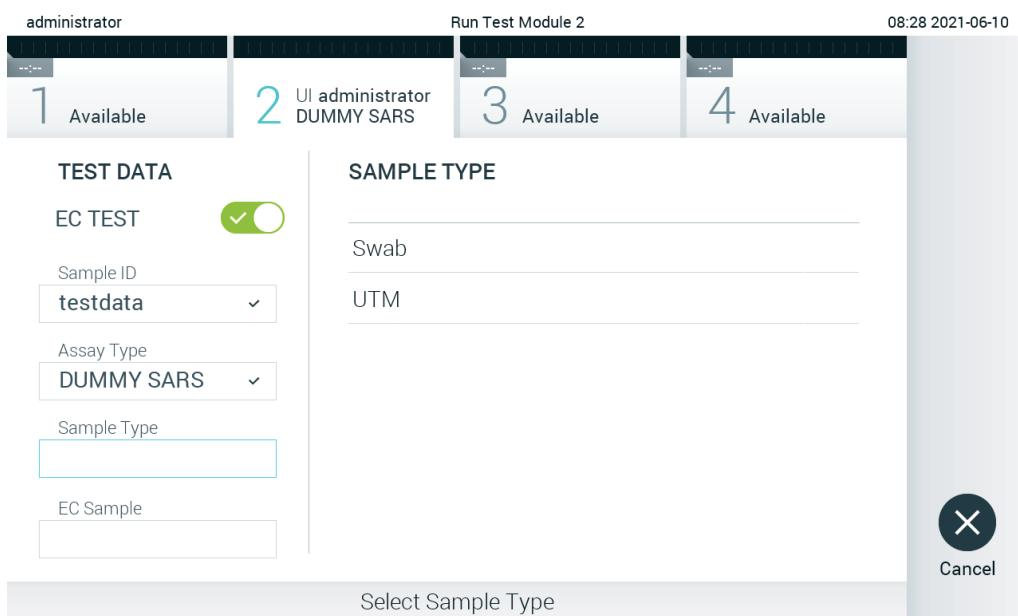

Figure 90. Choosing a sample type.
5. If required, select the appropriate sample type from the list (Figure 90).